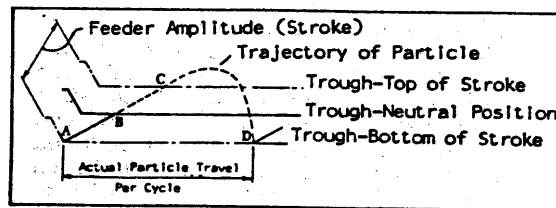

FIGURE 2 - MATERIAL FLOW ON TROUGH
Figure 2 illustrates the action of a single particle of material moving along the trough surface. During a vibration cycle, the trough surface travels between its lowest point (A) to its highest limit (C). The trough travels at its greatest velocity between (A) and (B), although still traveling up and forward, the trough decelerates between (B) and (C). On the upward stroke, the particle of material is in contact with the trough from (A) to (B). At point (B), the velocity of the particle becomes greater than the trough, and the particle leaves the trough surface on a free-flight trajectory from (B) to (D). The particle lands back on the trough surface at a position further forward (D). This completes one cycle. Each cycle imparts a forward and upward motion of the material, and it lands further along the trough toward the discharge.